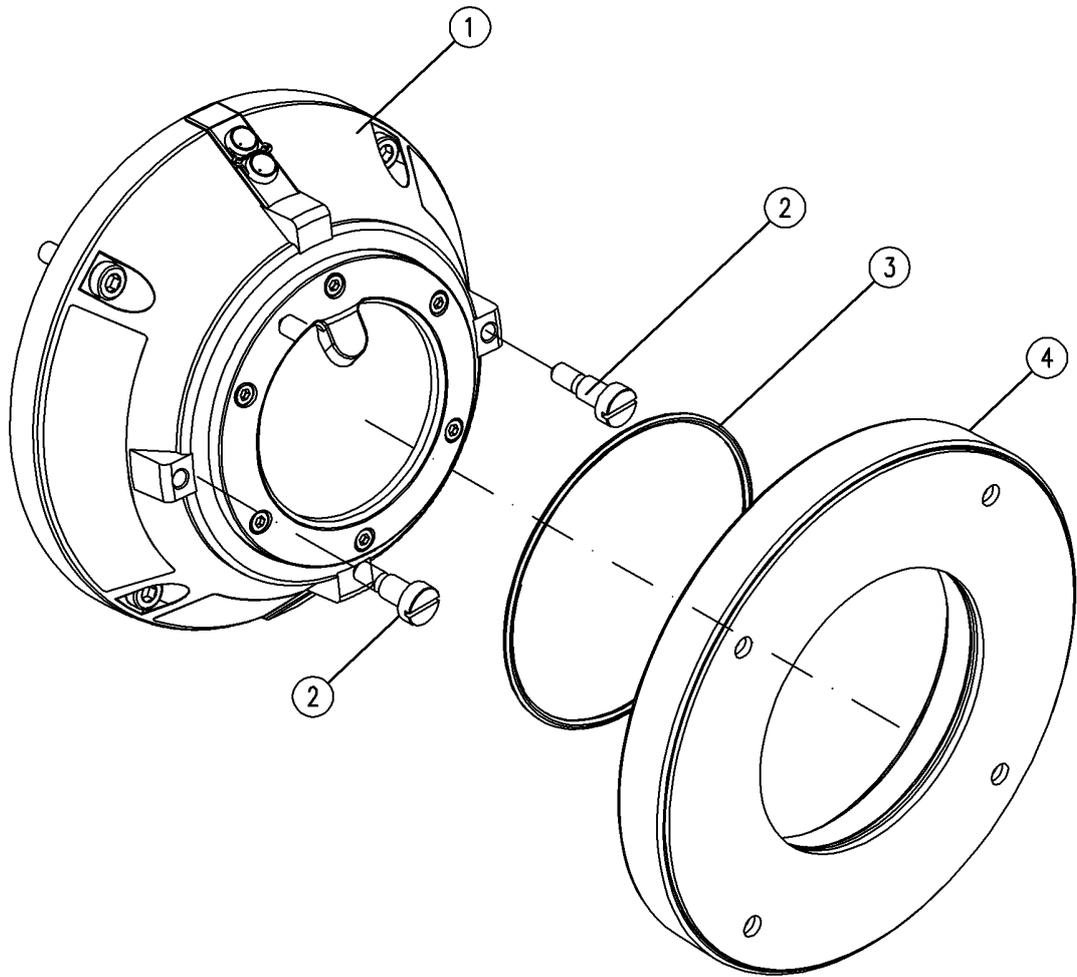

Fig. 30: FMX5000 IR 3GD bracket mount installation
1. ▶ Drill the holes required for installing the console. Use the console as a drilling template. Observe the dimensions of the console (Fig. 30/4) and the detector.
3. ▶ Screw the M5 screws (Fig. 30/2) supplied into the detector (Fig. 30/1).
8. ➤ High seal-tightness requirements: Insert the O-ring (Fig. 30/3) supplied into the console groove.
10. ➤ Back off the M5 screws (Fig. 30/2) in the detector by about one turn, place the detector back onto the console and lock into place with the bayonet catch.